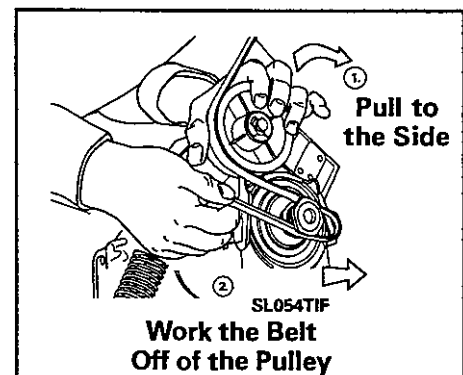

Figure 10-8
5. Grasp the idler pulley in left hand, pull idler upward and to the left. **Note: There is a built-in stop to prevent overstressing of the idler arm spring.** Slip belt off the motor pulley (Figure 10-8).